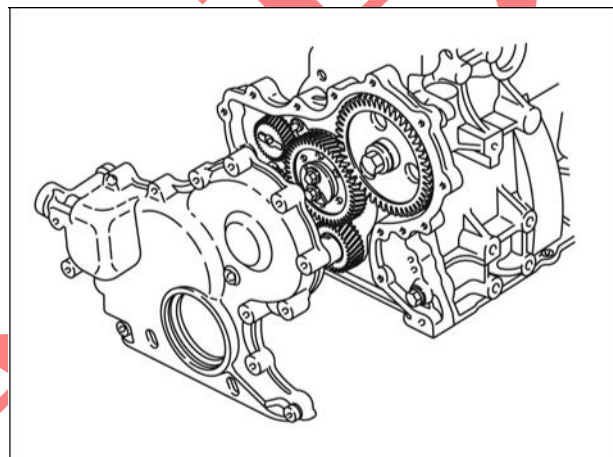

Figure 9
10. Remove trigger (Figure 9) and wire. Remove timing gear cover and discard timing gear gasket.